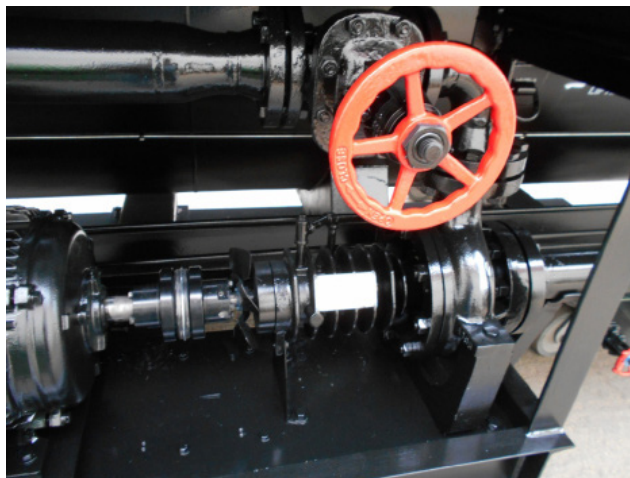

FIGURE 14 - PUMP COUPLING
9. Check the tightness of all couplings, including the fuel oil pump drive (oil-fired units), fan impeller, circulating pump, etc. See Figure 14.